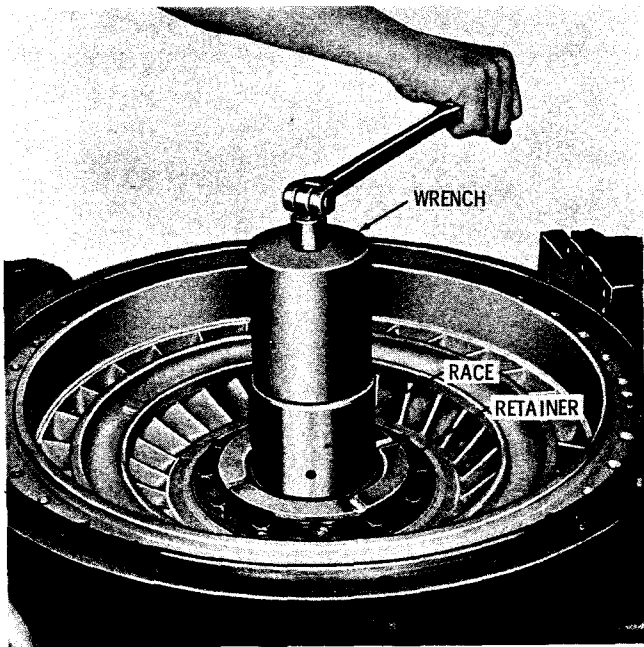

Fig. 5-30. Removing freewheel roller race spanner nut (variable-capacity converter)
(10) Straighten the staked portion of the spanner nut. Using a spanner wrench, remove the spanner nut. Remove the stator freewheel race (fig. 5-30) and retainer.